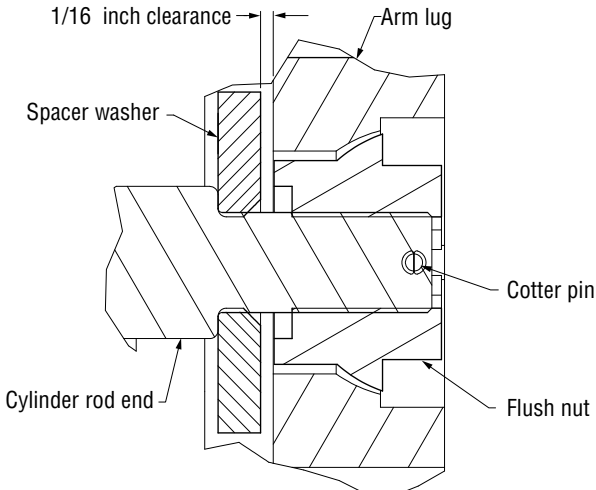

Figure 6-3, Arm Lug
3. Apply a thin coat of bearing grease to the spherical portion of the nut and concave section of the fork lug. Screw on the flush nut until it stops. Back off the flush nut while lining up the cotter pin hole in the rod with the slot in the flush nut. Clearance between the spacer washer and the fork lug should be $1/16$ of an inch. **Do not tighten the flush nut tight to eliminate all clearance between spacer washer and arm lug.** (Figure 6-3)